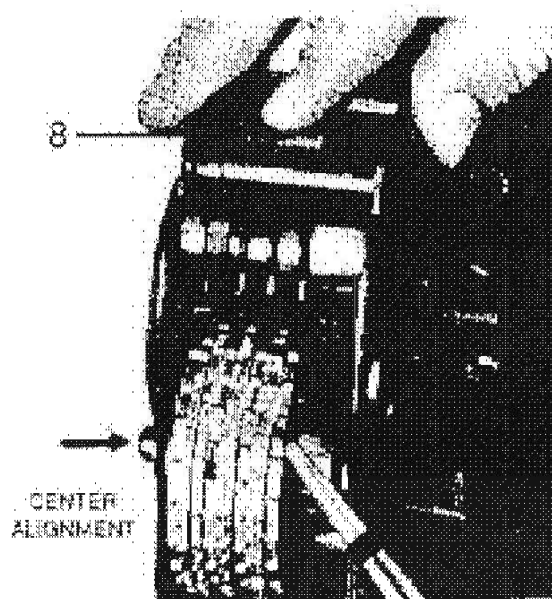

Figure 4
4. Rotate type wheels upward, one at a time, with a pointed tool such as a ballpoint pen. Move only the ratcheted-edge of the wheel to avoid damage to the type characters. Align wheels to center position. (Figure 4)